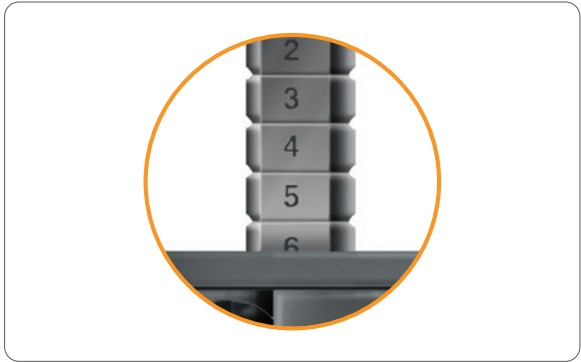

Figure 13
**Tip:** The gap between the top of the sizing guide and the stylus graduation line indicates how much bone will be removed from either the anterior cortex or posterior condyles by choosing the next larger size (**Figure 13**).